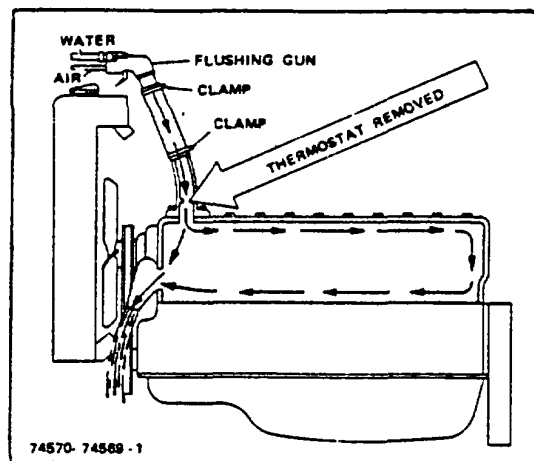

Figure 3-4. Reverse Flushing Engine a. Remove the thermostat.
2. Engine Water Jacket Reverse Flush Proceed as follows (see Figure 3-4) :